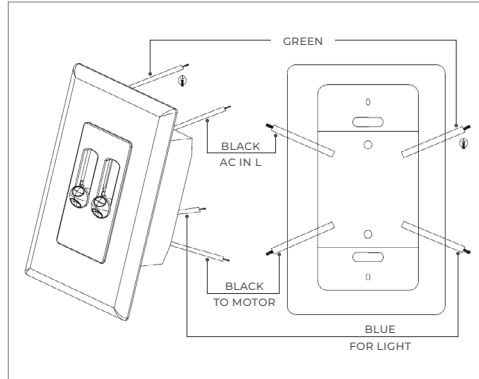

FIGURE 1
**D)** Installation of this control requires that a three-conductor cable with ground wire be run between the WS wall control electrical box and the ceiling fan junction box. (Figure 1)